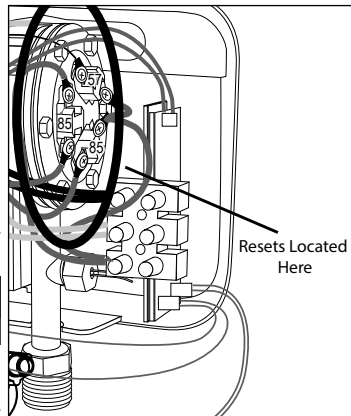

Figure 12 - Reset Locations
- Locate the resets to the right of the heating unit canister. See Figure 12.